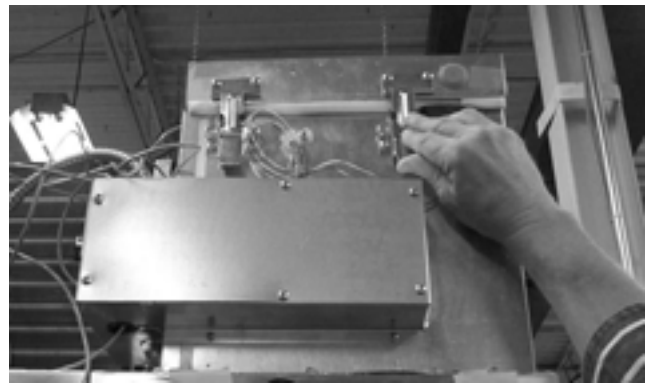

Figure 4-8
4. Remove the evaporator-housing lid, located on the cabinet top (Figure 4-8).